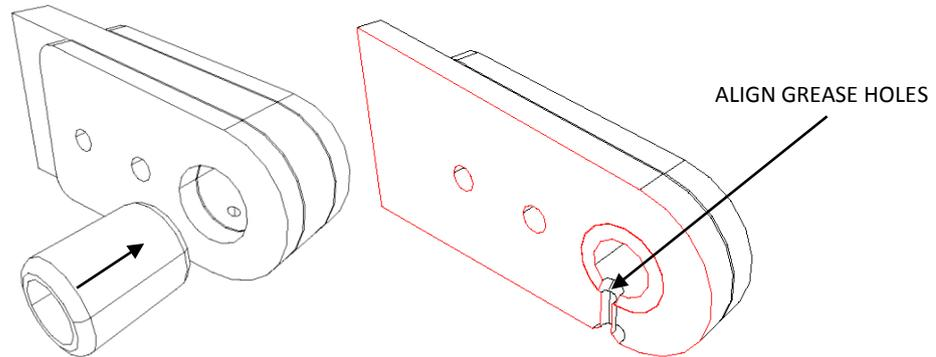

Figure 3 – Bush Installation detailed.
- e. Apply Loctite ® 680™ (or an equivalent high strength bonding compound designed for bonding of cylindrical parts) to the bush and carefully press it into the aileron or flap drop arm ensuring that its lubrication hole aligns with the lubrication hole in the aileron or drop arm, as shown in Figure 3.